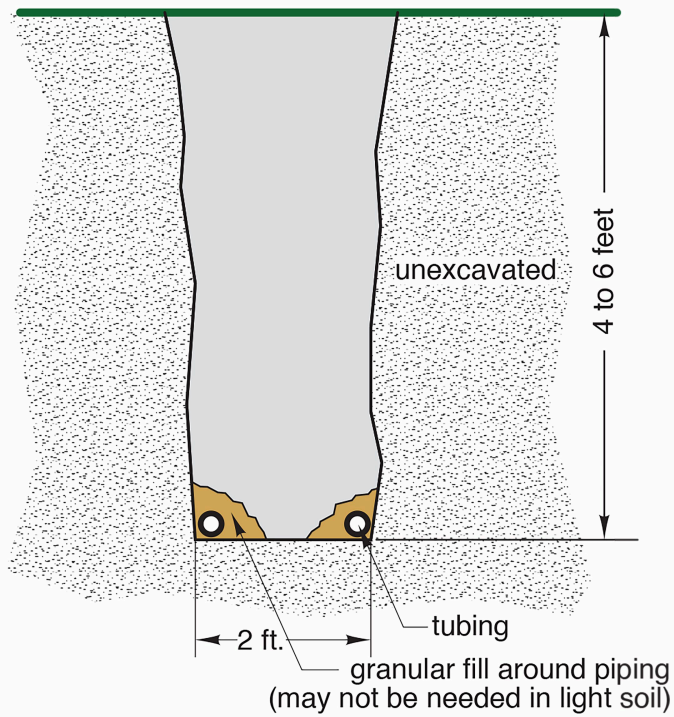

Figure 3 Two pipes horizontally in trench
- Figure 3 Heating capacity graph © Caleffi Hydronic Solutions. Used with permission.